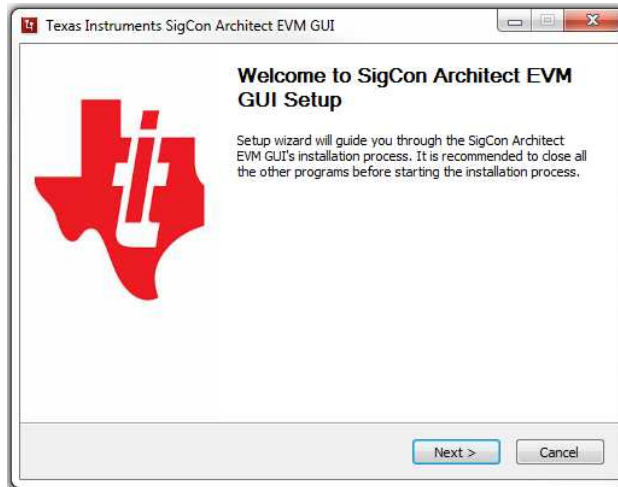

Figure 3. SigCon Architect Setup Wizard
- When the executable runs, a setup wizard will appear as shown in Figure 3. Close any programs that may be running and select “Next.”